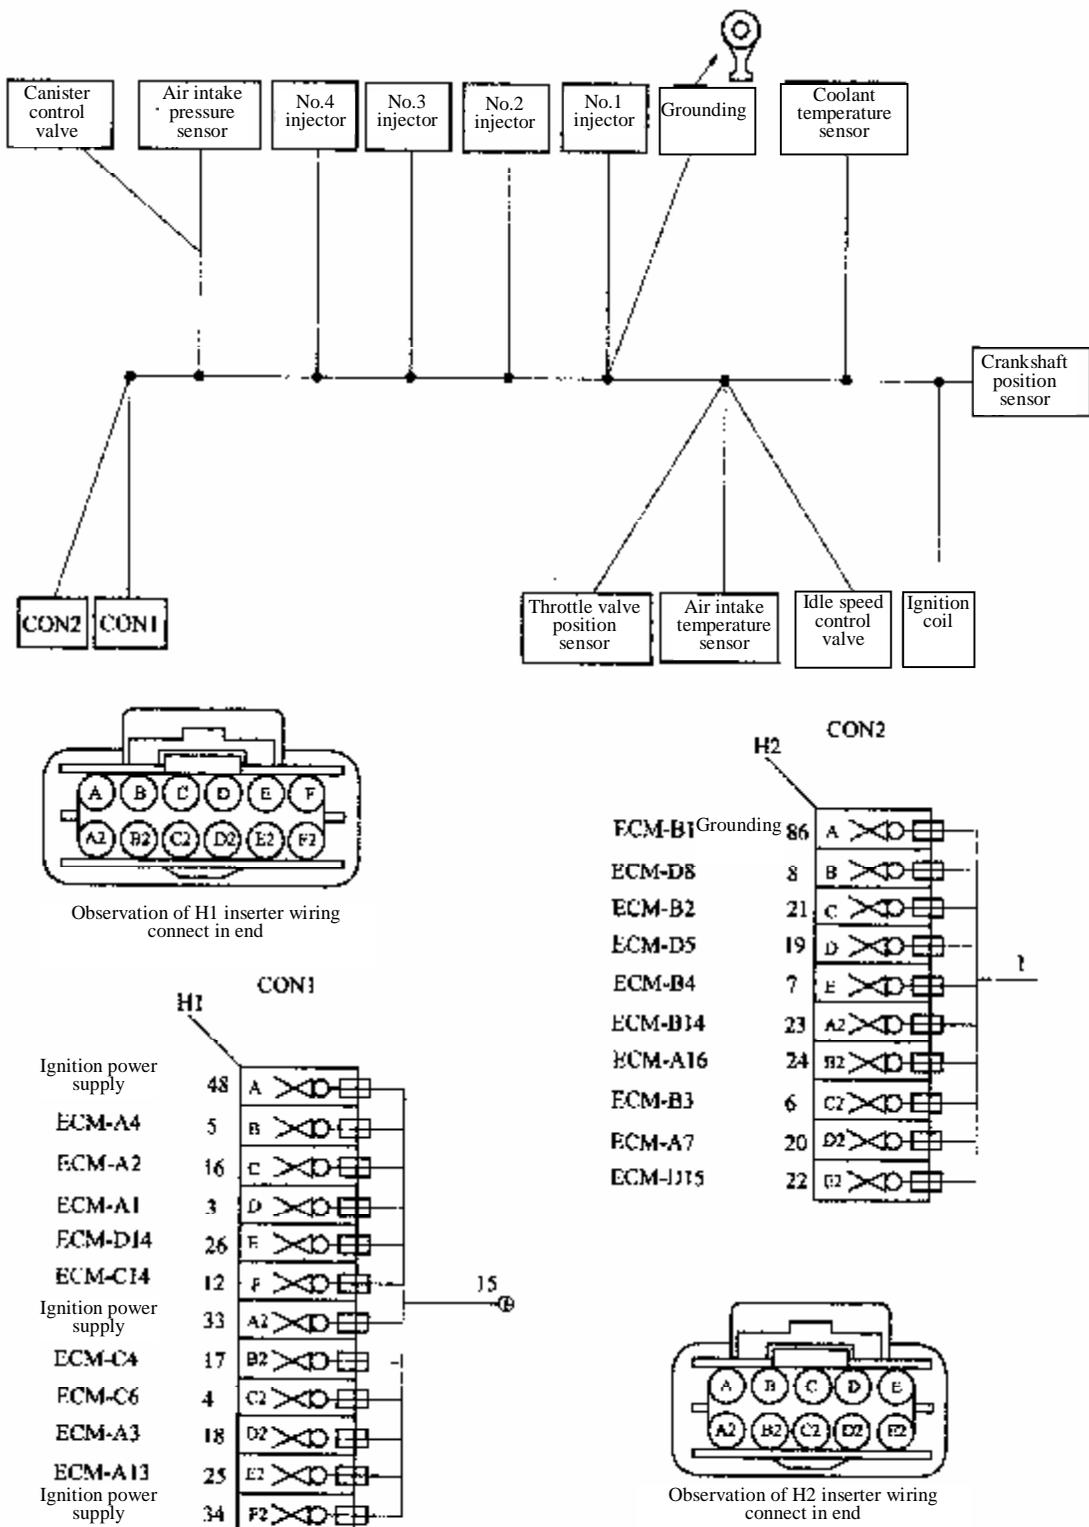

Figure 4-24 MPI Gasoline Engine Harness Diagram for BJ491EQ1 Foton View Sea Lion Light Bus
**4.2.16.1** Figure 4-24 shows multi point electronic injection gasoline engine system harness diagram for BJ491EQ1 Foton View Sea Lion light bus.